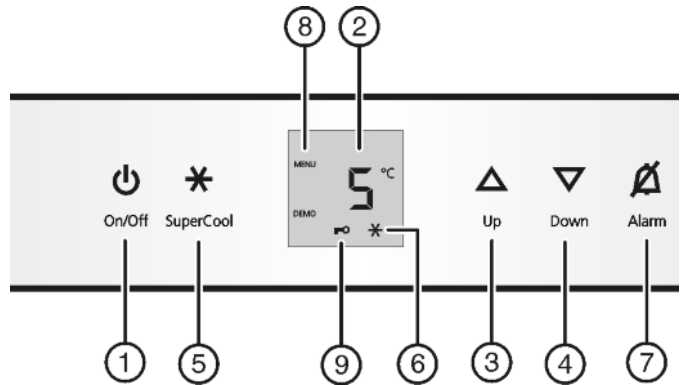

Fig. 2
- ▶ Press On/Off button Fig. 2 (1).
- ▶ To activate the setting mode: press SuperCool button *Fig. 2 (5)* for about 5 s.
- ▷ The menu symbol *Fig. 2 (8)* shines.
- ▶ Briefly press the SuperCool button *Fig. 2 (5)* to confirm.
- ▶ to activate the child lock, briefly press the SuperCool button *Fig. 2 (5)*.
- ▷ The child lock symbol *Fig. 2 (9)* shines. **c** flashes in the display.
- ▶ to deactivate the child lock, briefly press the SuperCool button *Fig. 2 (5)*.
- ▷ The child lock symbol *Fig. 2 (9)* goes out. **c** flashes in the display.
- ▶ To deactivate the set-up mode: press On/Off button *Fig. 2 (1)*.
- ▶ Press alarm button *Fig. 2 (7)*.
- ▶ For a higher temperature setting: press Up button *Fig. 2 (3)*.
- ▶ For a lower temperature setting: press Down button *Fig. 2 (4)*.
- ▶ Briefly press SuperCool button *Fig. 2 (5)*.
- ▷ The SuperCool symbol *Fig. 2 (6)* lights up in the display.
- ▷ The SuperCool symbol *Fig. 2 (6)* goes out in the display.